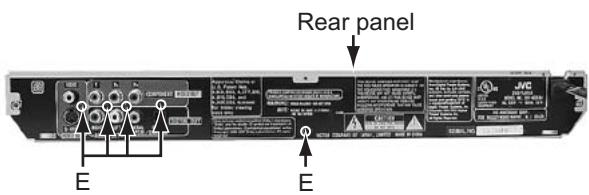
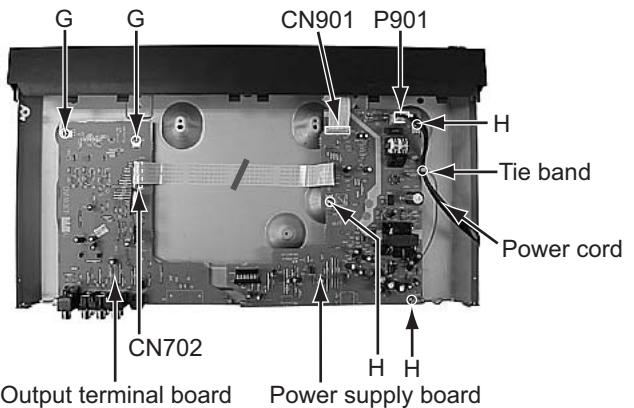

Fig.8
Fig.9
2.1.5 Removing the rear panel (See Figure 8, Figure 9)
2.1.6 Removing the output terminal board and power supply board. (See Figure 9)